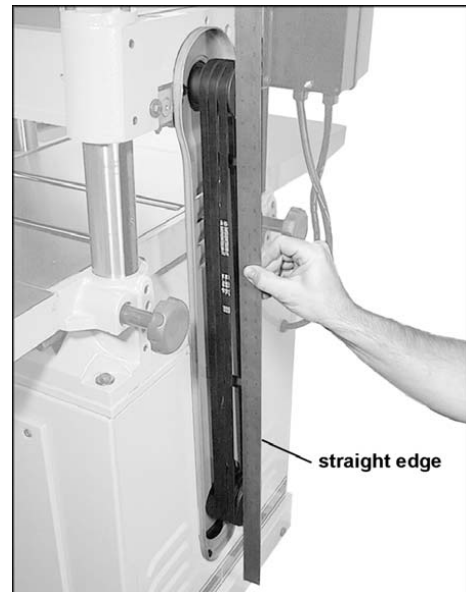
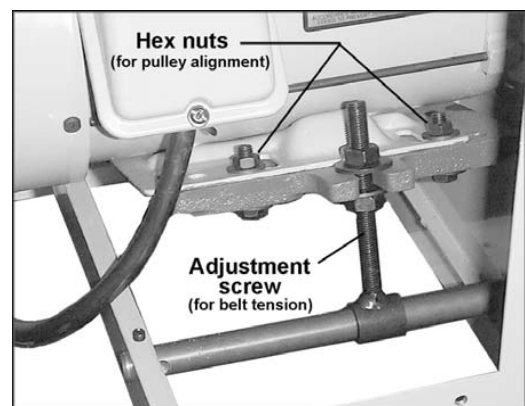

Fig. 10
Fig. 11
To verify that motor pulley (B) is in line with the shaft pulley of (A), using the edge of a straight scale check to see if they are on-line with each other. (Fig.10). If out of alignment, loosen the motor securing nuts as shown in Figure 11 and adjust as necessary.
Use the two nuts to adjust the belt tension (Fig.11) When achieved proper position of adjustment tighten bolts to hold in place.